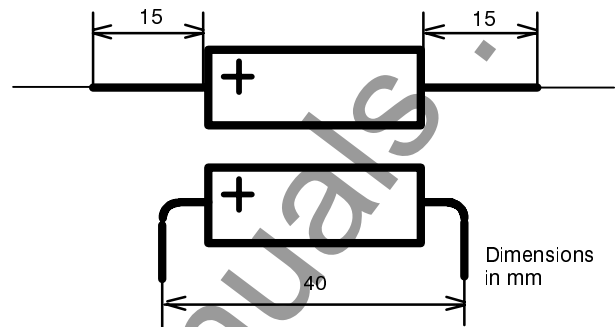

Figure 7.1 Bending the back-up battery, up to production series **/JH**
- **Only for relay until production series /JH:** Prepare the battery as in Figure 7.1: